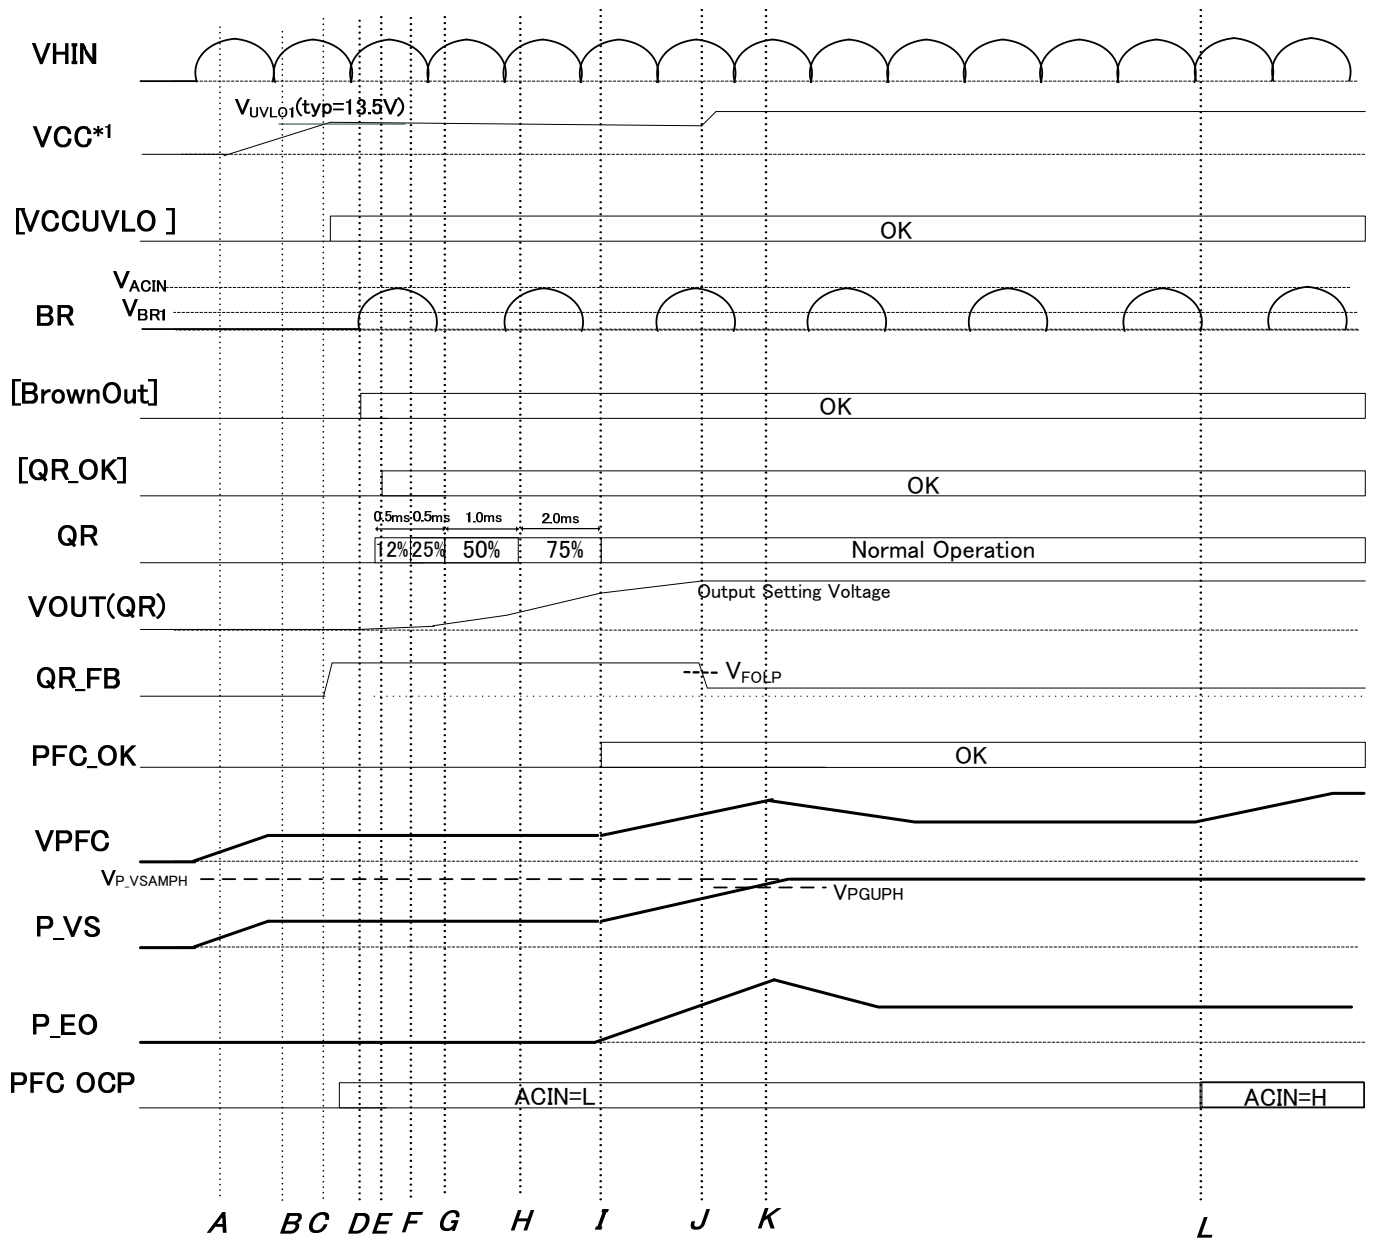

Figure 6. Start-up Sequence Timing Chart
When the V_{CCUVLO} is released and the brown out function is released, then IC starts. At starting, QR starts to operate in soft start first. After the soft start finishes, PFC starts to operate. After QR output is stable, in the case of POFFSET voltage > CS detect voltage PFC stops. The PFC off time is set at P_TIMER pin. In the case of POFFSET voltage < CS detect voltage for more than 4ms, PFC switches from OFF to ON. The waveform of start-up is shown in Figure 6.
•Operation explanation of Figure 6.
The IC PFC OCP detect voltage is switched from -0.6V to -0.4V because ACIN=H is detected in Figure 6.